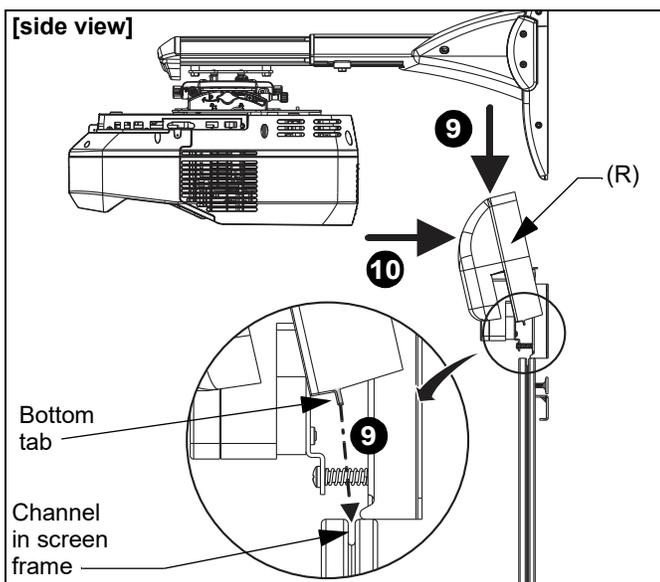

Figure 60
9. Lower AN3 sensor cover (R) over touch sensor, placing bottom tabs in channel on top of screen frame. (See Figure 60)
10. Swing top of sensor cover over top of touch sensor, clicking it into place. (See Figure 60)